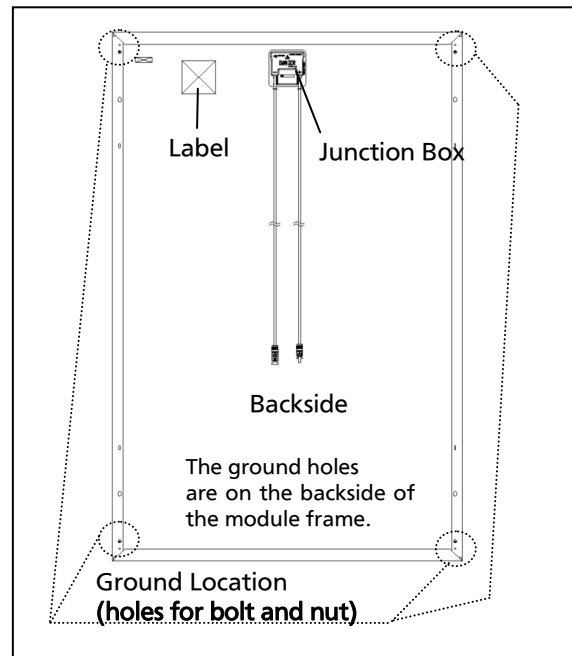

Figure 3.1
- Each ledge on the module frame has two holes for bolts (0.205" diameter (5.2 mm)). These ground holes are marked with a "G" or "ground mark" adjacent to their location on the frame rail (see Figure 3.1).
Method- Use a bolt and nut (see Figures 3.1 and 3.2)
illustrated in Figure 3.1.